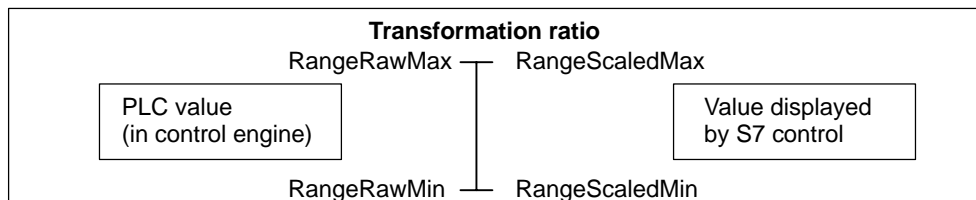

Figure A-1 Scaling Values by Range Transformation
When you use a range transformation to scale the value, you specify a source range (for the values in the control engine) and a destination range (for the values that are displayed by the control). The values of one range will be transformed to the other range. See Figure A-1. The source and destination ranges define a ratio for the transformation; they do not define upper or lower limits. A value can be larger or smaller than the range; the transformation will use the two ranges to extrapolate the other value.
- By range transformation: you specify a source range (of PLC values) and a destination range (of displayed values), and the values of the one range are transformed to the other range. See Figure A-1 and the Range properties.